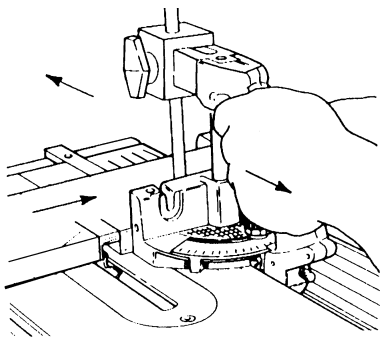

Figure C-17
5. Line up the right side of the dado with the right kerf mark and make your first pass. Move the stock to the right the width of one kerf and make another pass. Continue until the left side of the dado lines up with the left kerf mark, then make your last pass over the blade. See Figure C-17.